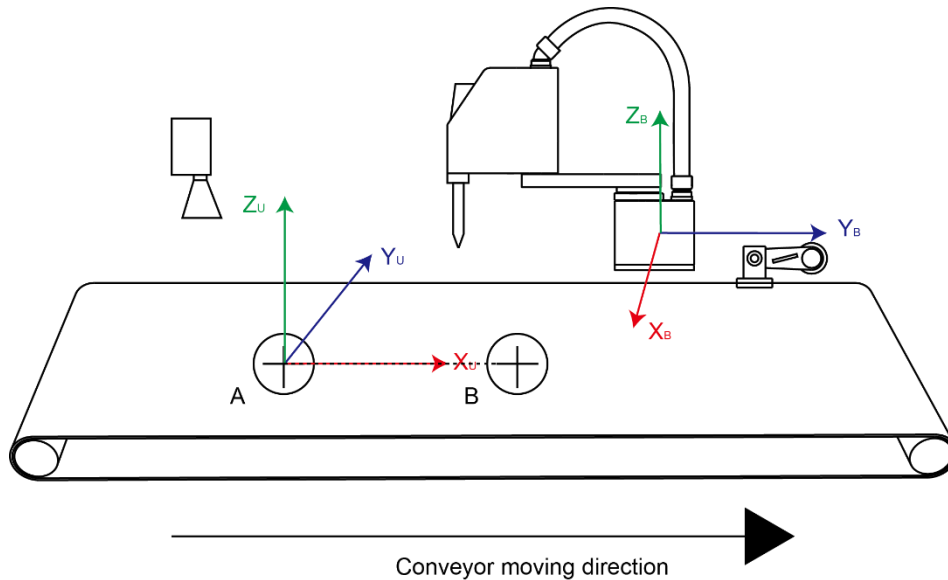

Figure 3.9 User coordinate system calibration
- Step 5** Enable the motor and jog the robot to the label position on the conveyor, and click **Get Second Point** on the **Second Point** section. We called this point as point B. The line from point A to point B is defined as the positive direction of X-axis. And then the Y-axis and Z-axis can be defined based on the right-handed rule, as shown in Figure 3.9.